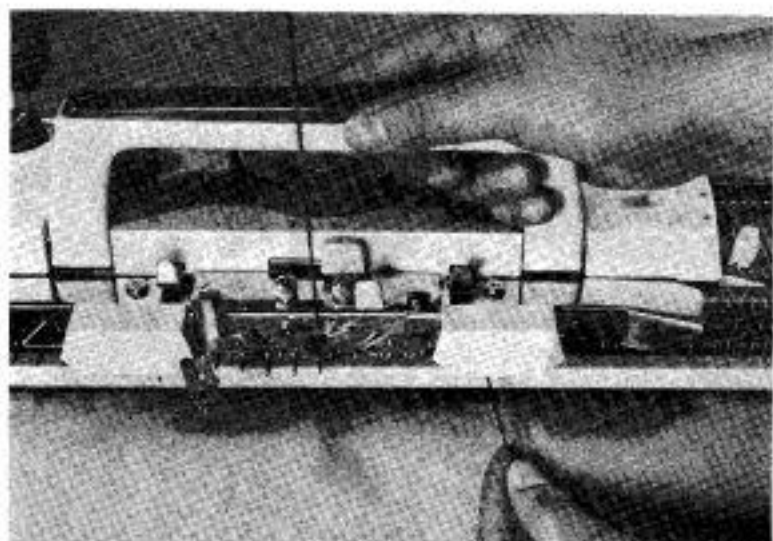

Fig. 31
i) Holding the loose end of the wool directly below the carriage feeder, move the carriage slowly from the right to the left across the working needles. (Fig. 31)
- m) Continue to hold the loose end of wool for the next two rows. (Fig. 31)
- i) Holding the loose end of the wool directly below the carriage feeder, move the carriage slowly from the right to left across the working needles. (Fig. 31)